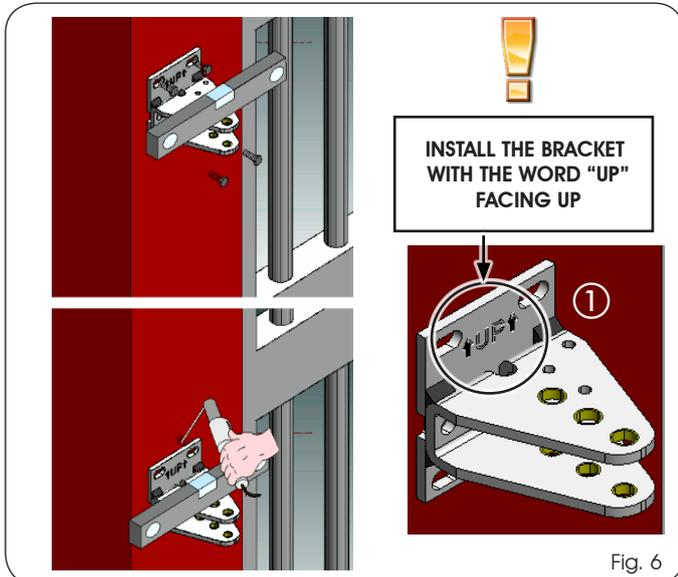

Fig. 6
1. Check the perfect level then weld the rear fitting to the pillar or fix it by means of suitable screws, dowels / threaded inserts. Observe the dimensions stated in Tab.1 (never cut the rear fitting; moreover it must be installed with the word "UP" facing up as shown in figure 6 ref. ①).